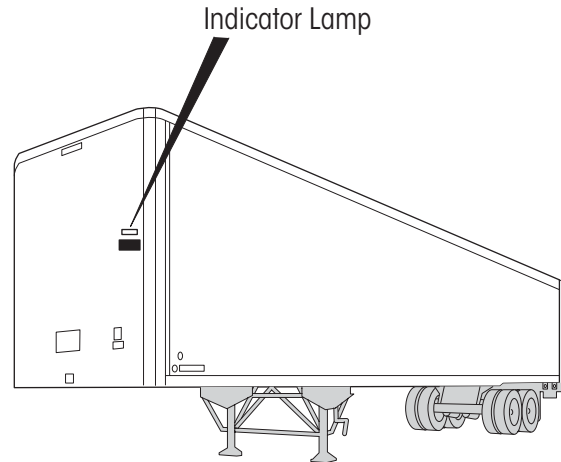

Figure 4: Indicator lamp typical location
- Indicator lamp (Figure 4 on page 11) that illuminates when regulated air flow exceeds the designed threshold. This occurs while tires are inflating or there is a system leak.
TIREMAAX® PRO and CP function similarly for tire inflation. Deflation is a function of TIREMAAX® PRO only. No operation is required by the driver/operator for either system to function normally. However, the Indicator Lamp should be monitored to verify system function and integrity. The Indicator Lamp is located in the front of the trailer (Figure 4 on page 11) or in a location within view of the driver from the cab.